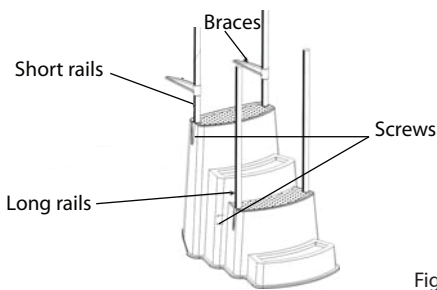
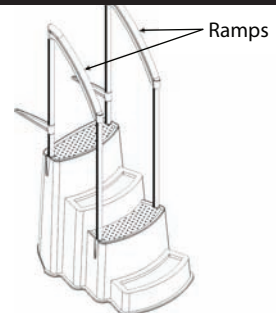

Fig. 1
Fig. 2
1. Place the rails on the sides of the step (short rails on top) and align with the predrilled holes. Attach using the 2½" (8) bolts, washers and nuts. Do not tighten the bolts at this time. Slide the braces over the short rails (fig. 1).
2. Insert the diagonal rails onto the long and short rails. From the outside of the step, attach using the 10 x ¾" (4) screws (fig. 2). Tighten the bolts on the step (as shown in figure 1).